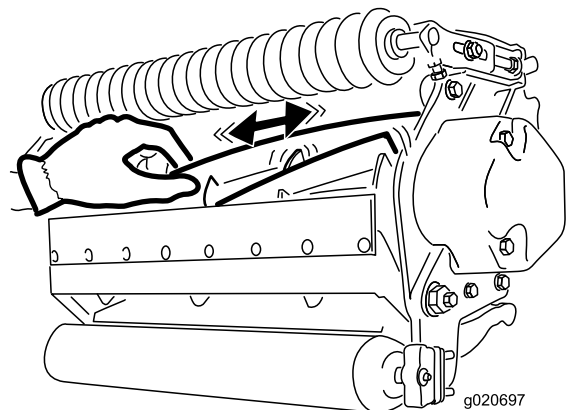

Figure 32
2. Using a rag or thickly padded glove, hold on to the reel blade and try to move the reel assembly side to side (Figure 32).